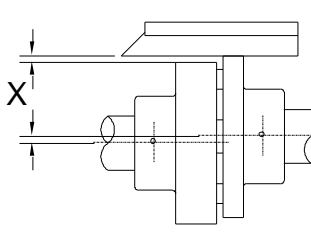

Fig. 13
- 9 - With a straight edge ruler check the parallelism of the two coupling halves at several points, 90° from each other (see fig. 13).